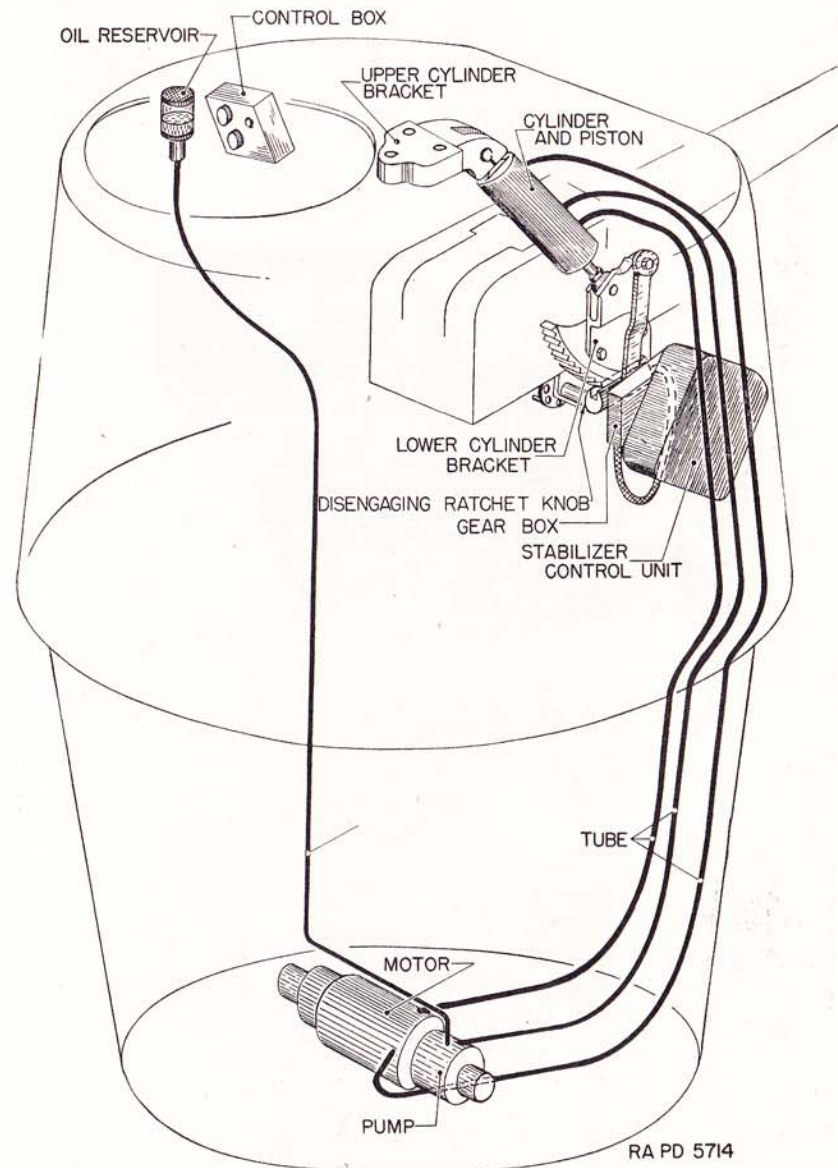

FIGURE 76.—37-mm gun stabilizer system.
**122. General.**—Figures 76 and 77 show the complete assemblies of the stabilizer systems. Repairs must not be made to individual assemblies, but rather the assemblies will be replaced as units. Corresponding assemblies for the two systems are similar.
- (1) Check for free motion between the control unit and the hand-